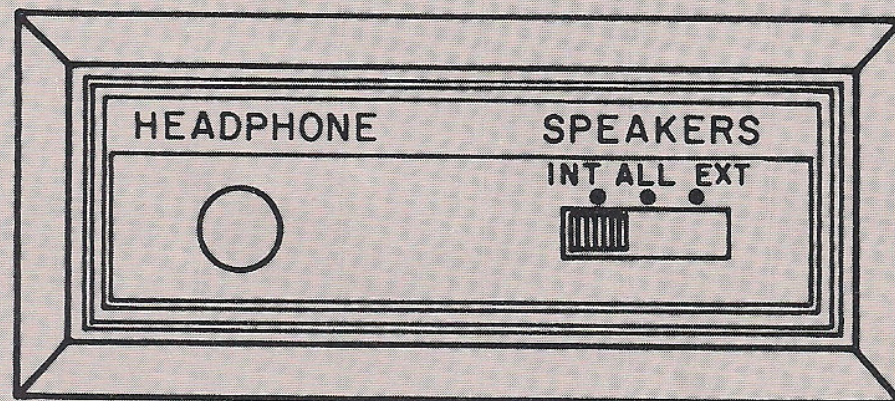

Figure 2B
**HEADPHONE JACK (Fig. 2B)** – Located on inside back of cabinet. Plug in headphones here for private listening. See section on Speaker Selector Switch for details.
**SPEAKER SELECTOR SWITCH (Fig. 2B)** – This switch located on inside back of cabinet, controls operation of the built-in speakers and any external speakers connected to your unit. It also controls headphone operation.